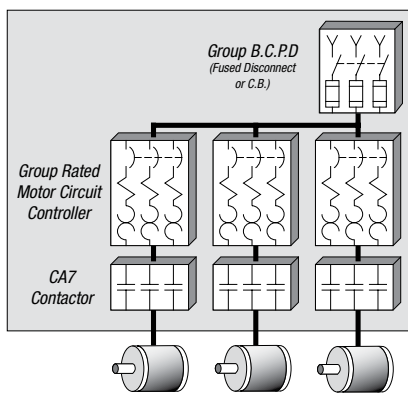

Figure 3
Unfortunately, NEC 430-53 (a) or (b) [CEC 28-602 (3)(b)] limits the group to a few small motors. However, by applying the KT7 under 430-53 (c) (Figure 3), the problems associated with 430-53 (a) and (b) are overcome.